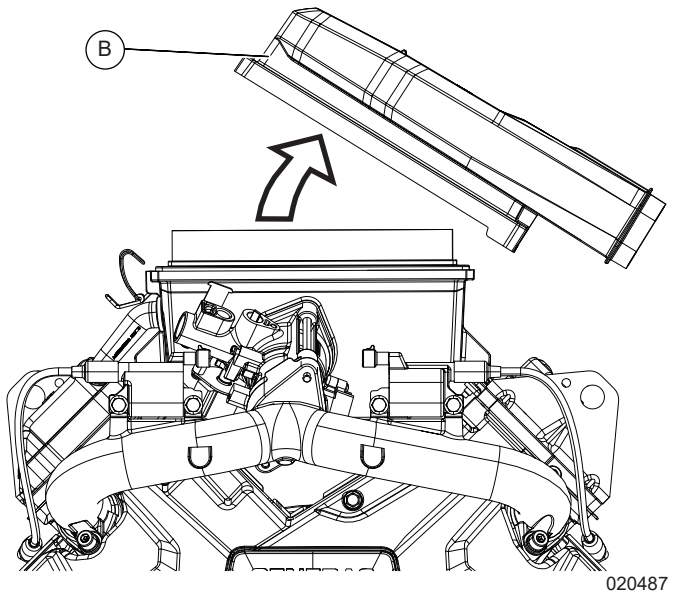

Figure 6-6. Remove Air Box Cover
2. See Figure 6-6. Tip air box cover away from hatch to release air box cover from connecting tabs on opposite side.